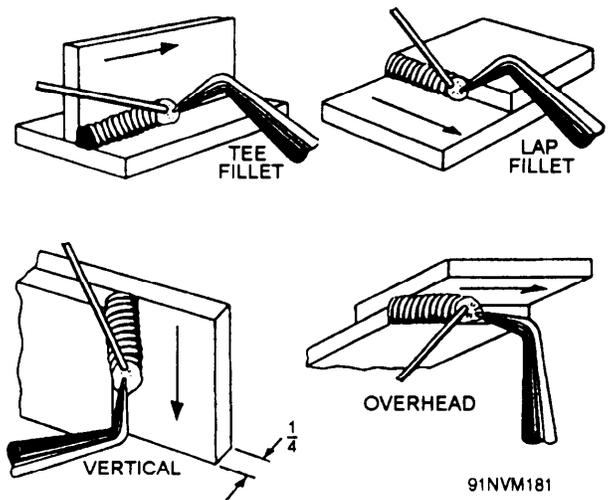

Figure 8-27.—Backhand welding.
**BACKHAND WELDING** is a newer method of welding. In this method, the torch tip precedes the filler rod in the direction of welding, and the flame is pointed back at the molten puddle and the completed weld. The end of the filler rod is placed between the torch tip and the molten puddle, and the welding torch tip should make an angle of about 45° to 60° with the plates or joint being welded. (See fig. 8-27.)